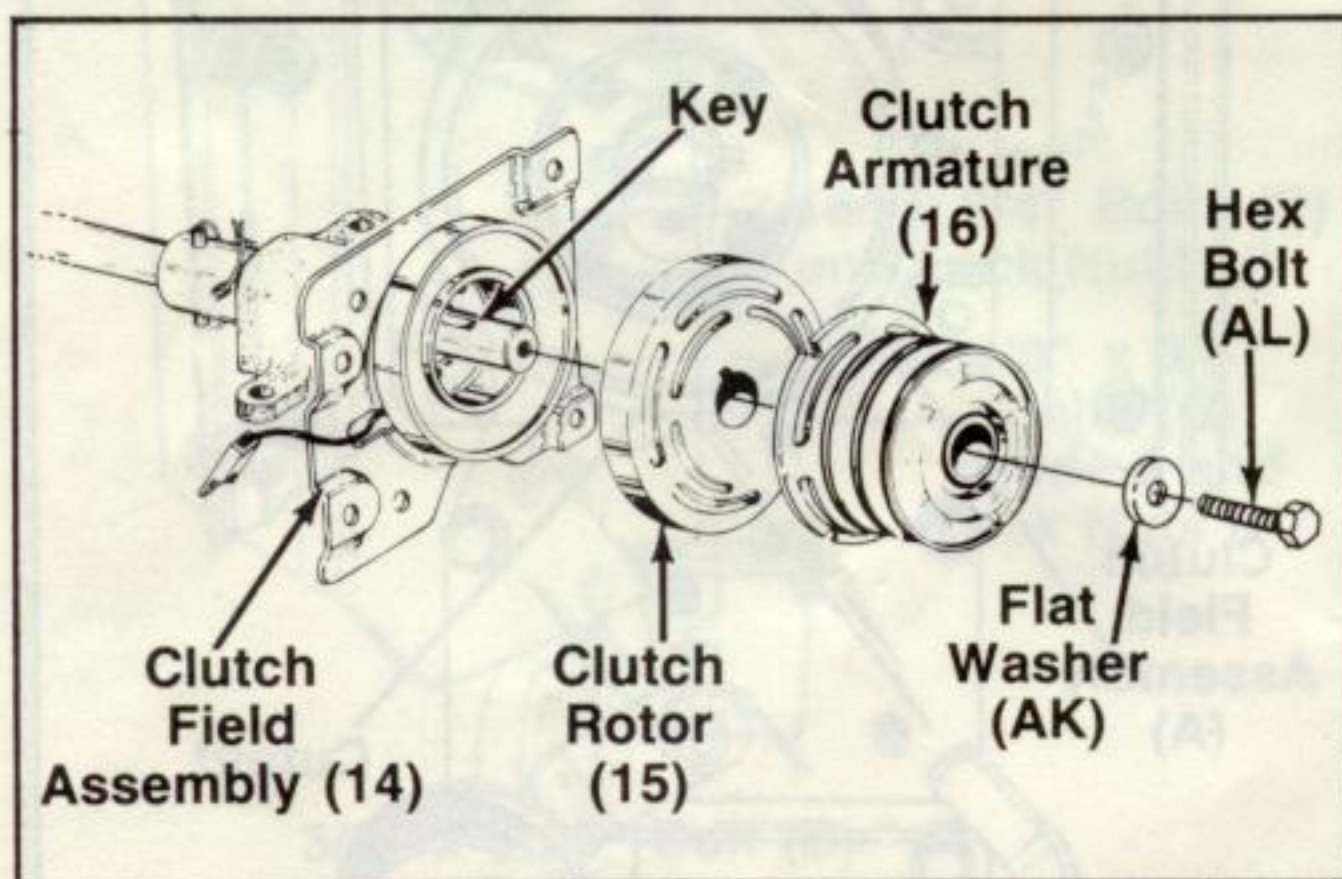

FIGURE 28.
37. Slide clutch rotor (15) onto rear P.T.O. clutch shaft, lining up the woodruff key (AE) with key slot in the clutch rotor and over clutch field assembly. See figure 28.
38. Slide clutch armature (16) over rear P.T.O. clutch shaft and secure with large flat washer (AK) and hex bolt (AL). See figure 28. **NOTE: Use loctite on hex bolt (AL) prior to assembly.**